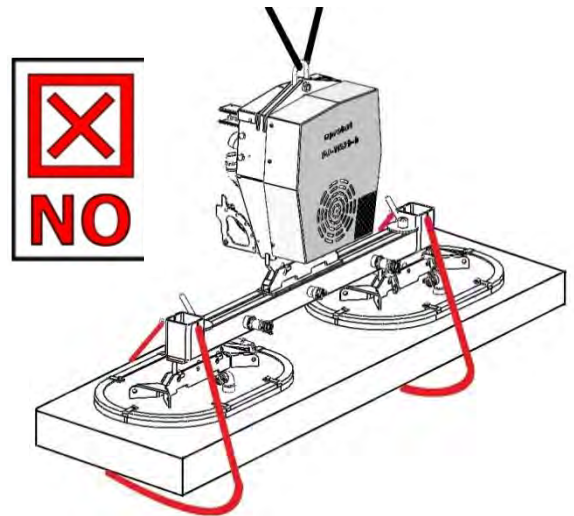

Fig. 2
Unequal positioning of the suction plates is not permitted (see figure 2)!
- The safety chains must never hang loose under the load, otherwise the load may fall down, in case of a vacuum failure (Fig. 2).